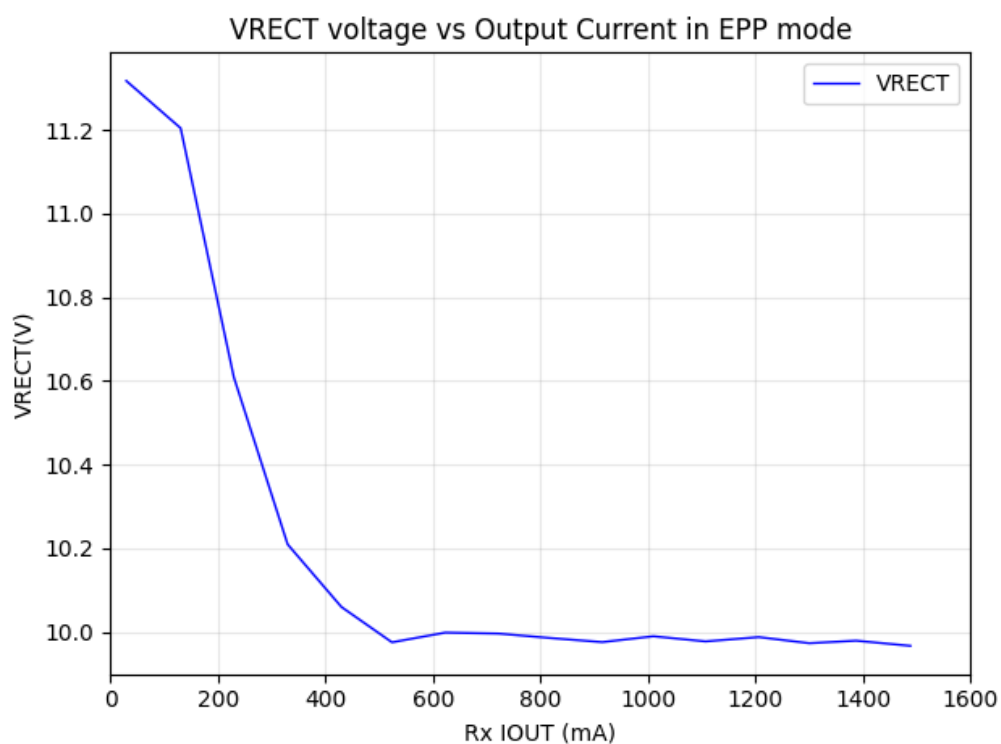
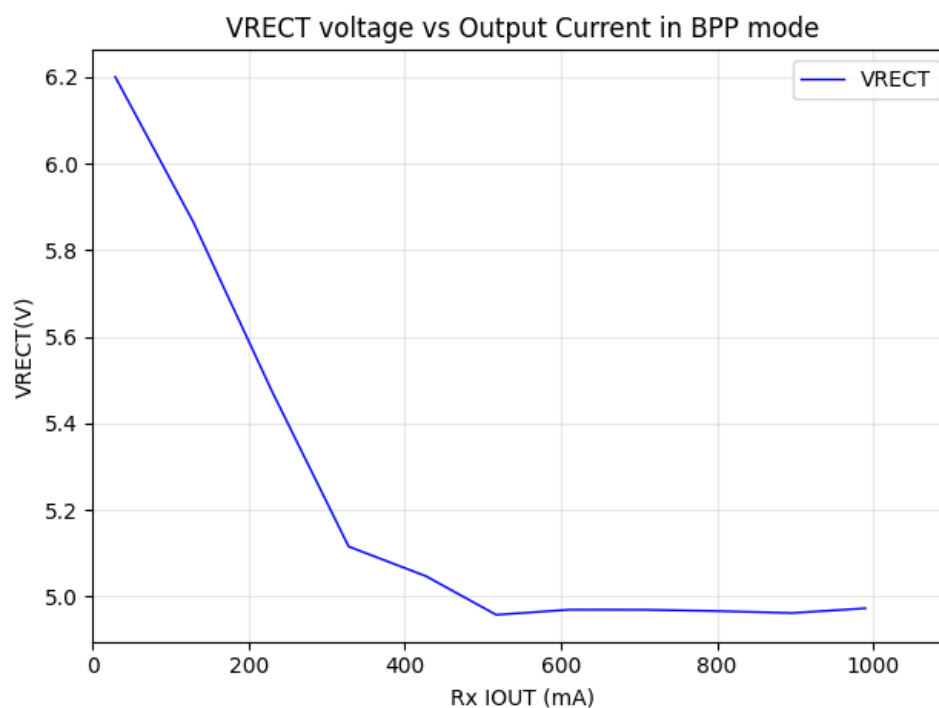

Figure 10. Rx VRECT Target Voltage on P9243-GB Tx (EPP Mode)
Figure 11. Rx Vrect Target Voltage on P9235A-RB Tx (BPP Mode)
GP0 functions as power good indication. Figure 10 and Figure 11 show EPP and BPP mode power good waveform.
- After loading the file, select Vrect or Vout depending on where your power supply is connected to and press the “Program” button. The EEPROM will be programmed and the GUI will indicate if successful or if there were errors. See Figure 10, which indicates that the programming was successful. If there are any errors, attempt to program again.